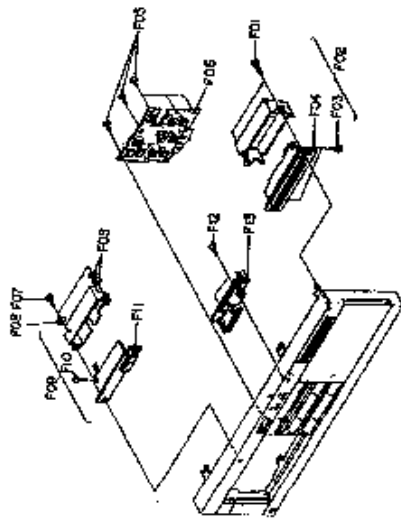

Fig. 2.4
- 2.10. LED Level Indicator Assy, Control Switch P.C.B. Assy, Counter P.C.B. Assy and LED P.C.B. Assy Refer to Fig. 2.4.